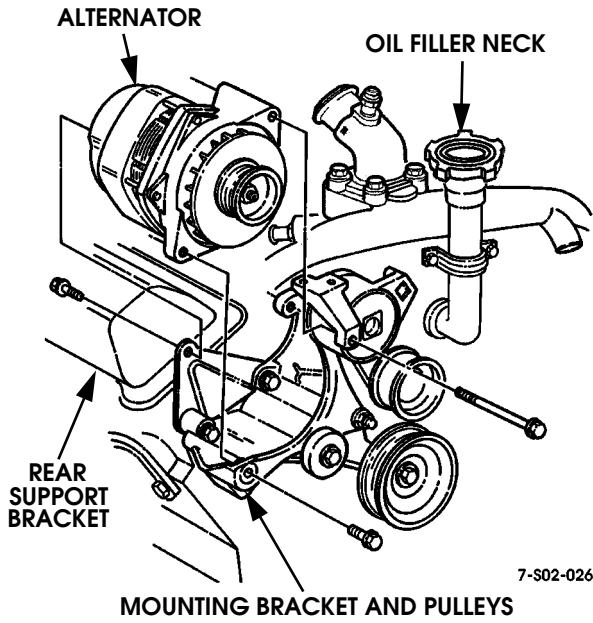

Figure 2-83: Alternator and Bracket Removal
2. Remove alternator mounting and support bracket bolts and remove both brackets (Figure 2-83).
3. Remove filler neck strap bolts and remove filler neck if desired (Figure 2-83).